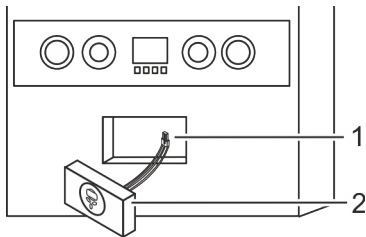

Fig. 5: Installing the actuator (receiver)
4. Install the assembled actuator (receiver) (Fig. 5/1) in the boiler.